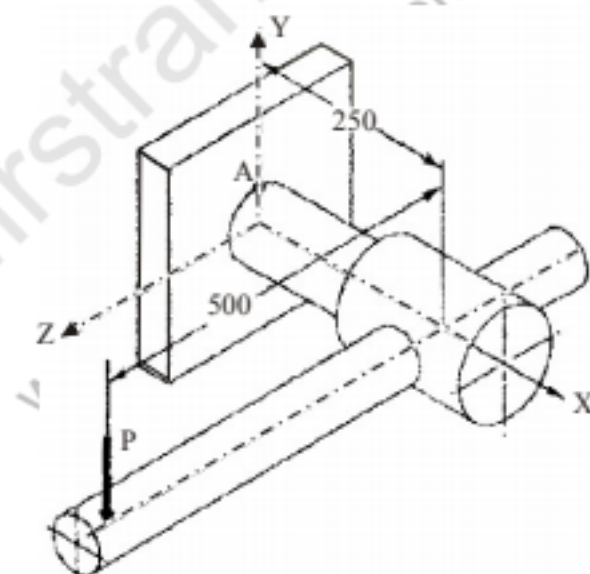

Fig. 1
- Q1. Compare and explain the use of different theories of failure. Discuss the selection criteria for brittle and ductile materials. (20)
- Q2. The shaft of an overhang crank subjected to a force P of 1 kN is shown in Fig 1. The shaft is made of plain carbon steel 45C8 and the tensile yield strength is 380 N/mm^2 . The factor of safety is 2, Determine the diameter of the shaft using the maximum shear stress theory. (20)